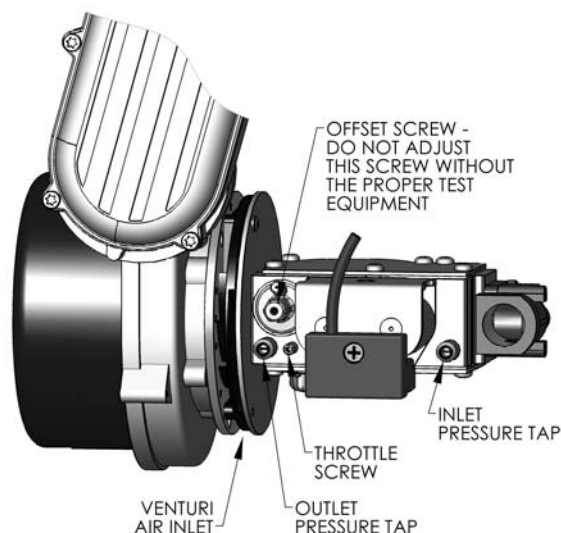

Figure 5.2: Gas Valve/Venturi
2. Table 5.3 shows the maximum and minimum fuel gas supply pressure to be measured at the gas valve inlet pressure tap. See figure 5.2.
- c. Using a flat screwdriver, turn the screw inside the inlet tap fitting (see Figure 5.2) one turn counter clockwise.
1. Figure 5.2 is an illustration of the gas valve/venturi assembly for the *PUREFIRE*® boiler.
- a. Adjustments should not be made to the gas valve without instrumentation to measure carbon dioxide (CO₂) and carbon monoxide (CO) emissions in the vent pipe.